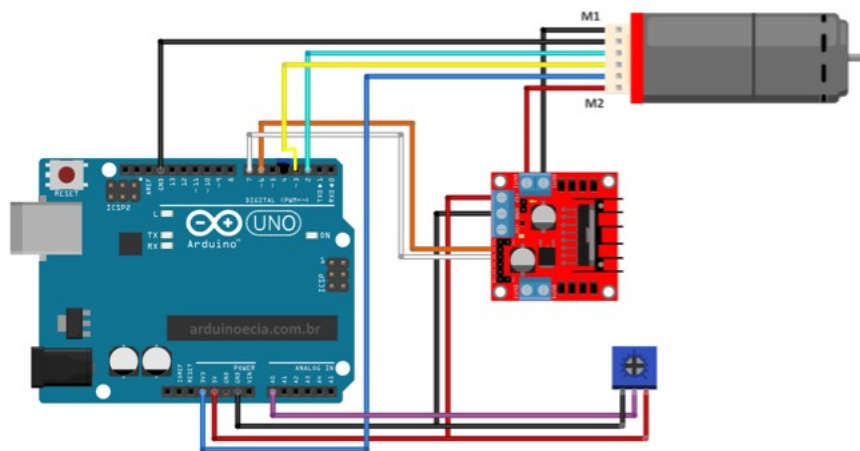
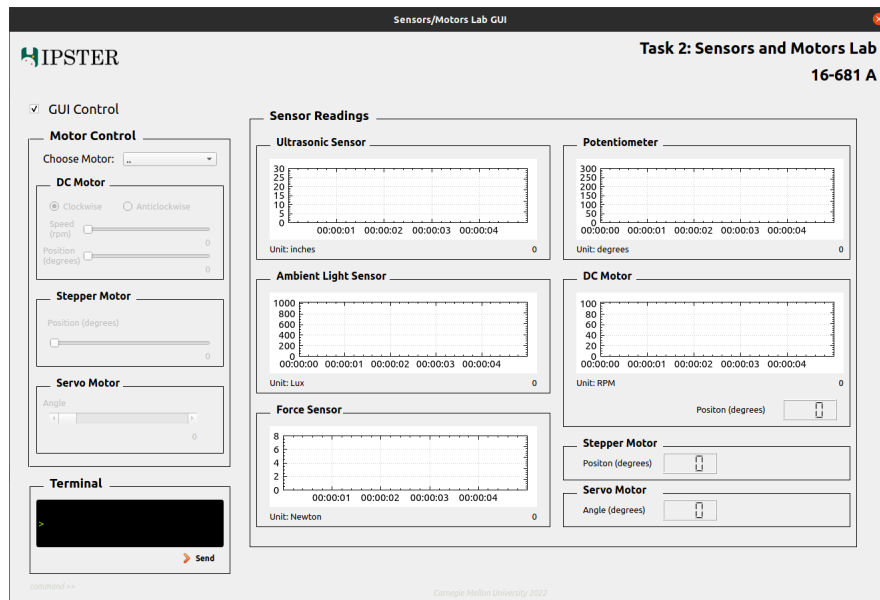
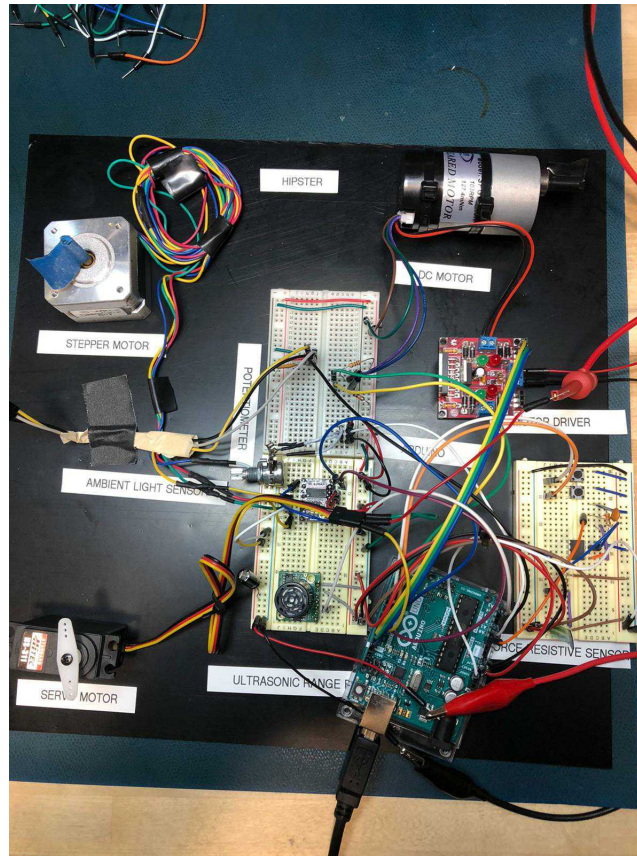

Figure 1: Circuit diagram for Potentiometer and DC Motor
Figure 2: Graphical User Interface
Figure 3: Integrated Hardware Circuit
The circuit diagram for the potentiometer integrated with the DC Motor and driver is shown in Figure 1. The complete integrated circuit is as shown in Figure 3. The graphical user interface of our system is as shown in Figure 2.
(1) If the window size used is small and there are multiple outliers that represent the extremities, it will increase the error. (2) The process of finding the median required sorting which makes the entire process more computationally expensive. In the best-case scenario, the time complexity is $n \log n$ where n refers to the window width. It is evident that as n increase the computation cost will also increase significantly.
- In the following questions, you want to calibrate a linear sensor using the circuit in Fig. 1 so that its output range is 0 to 5V. Identify in each case: 1) which of V_1 and V_2 will be the input voltage and which the reference voltage; 2) the values of the ratio $\frac{R_f}{R_i}$ and the reference voltage. If the calibration can't be done with this circuit, explain why.